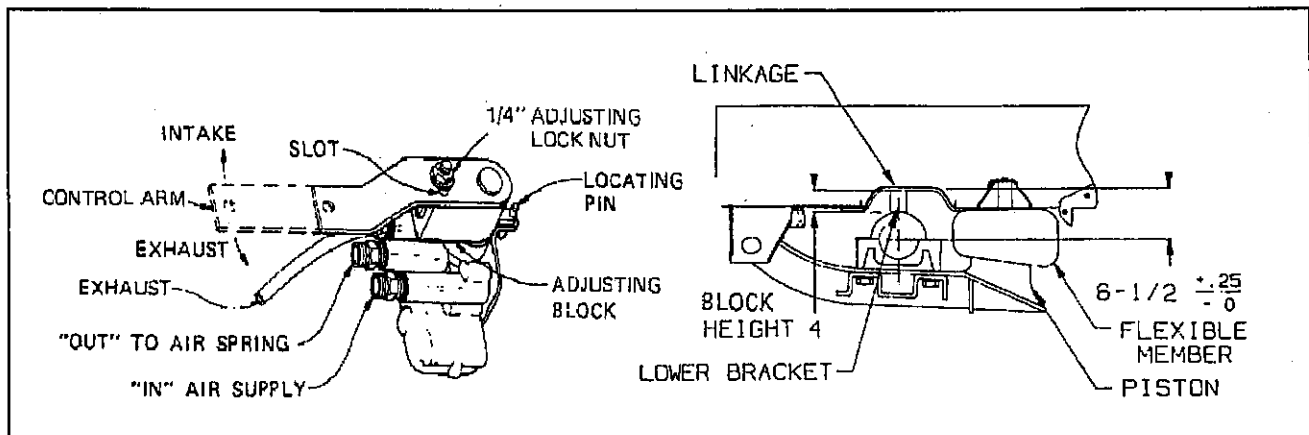

Fig. 4-6 Air Ride Adjustment
4-7.1 Air Ride Height Adjustment. (See Figure 4-6 for parts identification).
e. Move the control arms to the "down" position (about 45°) for 10-15 seconds. Slowly return the control arms to the center position and insert locating pins into the adjusting block and bracket on the automatic height control valves (see Figure 4-6).